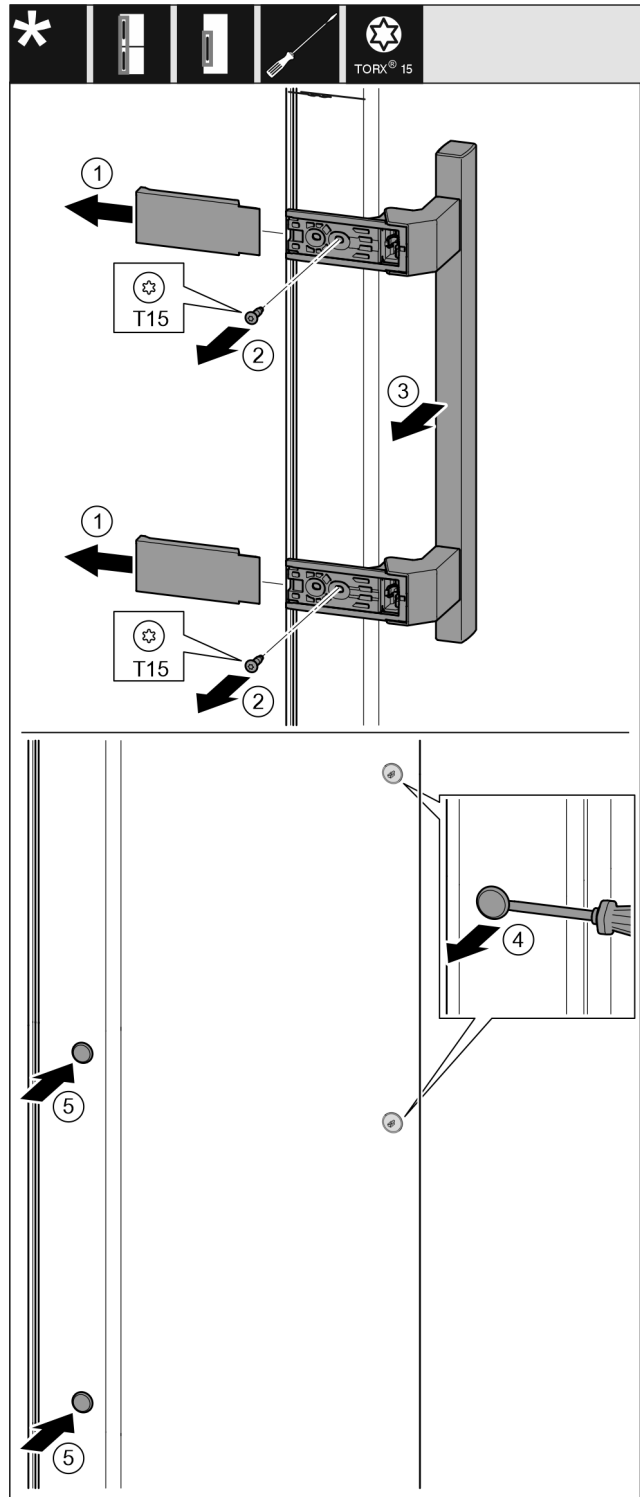

*Fig. 38 \**
- ▶ Pull out the guide bush: Press the lug with a slotted screwdriver and, at the same time, insert the slotted screwdriver under the guide bush. *Fig. 38 (1, 2)\**
- ▶ Slide the guide bush included in the scope of supply to the other side of the housing. *Fig. 38 (3)\**